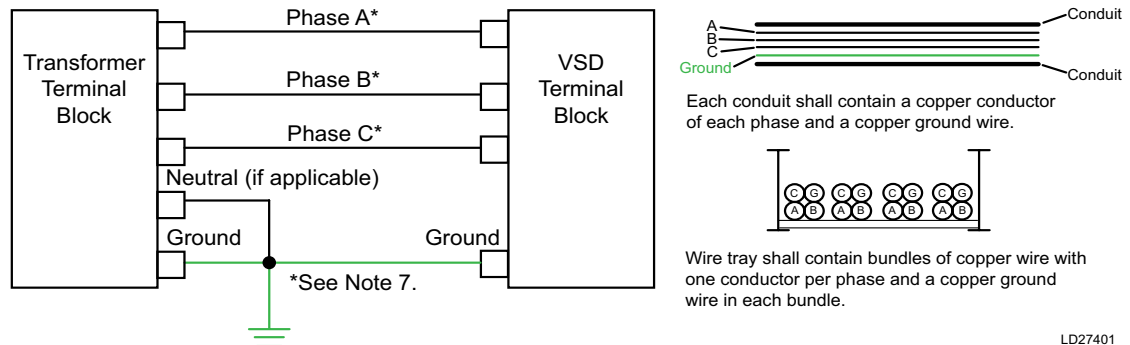

FIGURE 1 - GROUNDING VSD (0490A)
- A separate grounding conductor shall be run in each conduit or for each 3 phase bundle within a cable tray. See *Figure 1 on page 5*.
- Wiring, electrical conduit, junction boxes, fused disconnect switches (FDS), or circuit breakers, starters (M), pushbutton stations (PB), manual-off-automatic switch (S), flow switch (FLS), and control relays furnished by others unless otherwise specified.
- Control power supply 115V - 50/60 Hz, 2.0 KVA capacity for control center only, is supplied by (1)-2.0 KVA control power transformer (1T) mounted inside the VSD, it is factory wired.